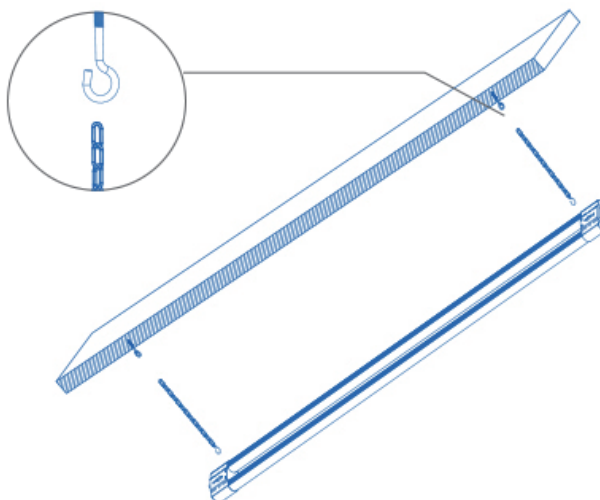

Figure 5
- 3 Hook the hanging chain with ceiling hook (Figure 5)